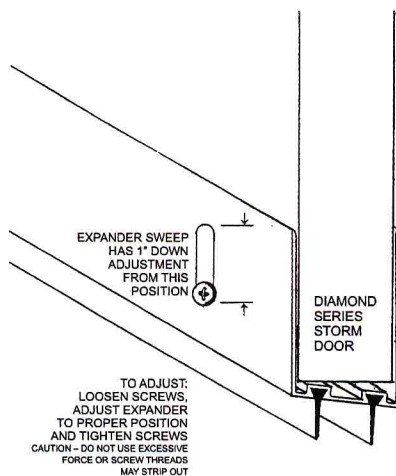

Figure 3
3. Install Vinyl Sweeps into Grooves in the Bottom of the Door Expander. Pinch the end of the Expander Sweep Grooves with pliers to prevent the Vinyl Sweeps from pulling out. Cut off the excess Vinyl Sweeps with a scissor or knife. (Fig. 3)
5. Install Vinyl Sweeps into Grooves in the Bottom of the Door Expander. Pinch the end of the Expander Sweep Grooves with pliers to prevent the Vinyl Sweeps from pulling out. Cut off the excess Vinyl Sweeps with a scissor or knife. (Fig. 3)